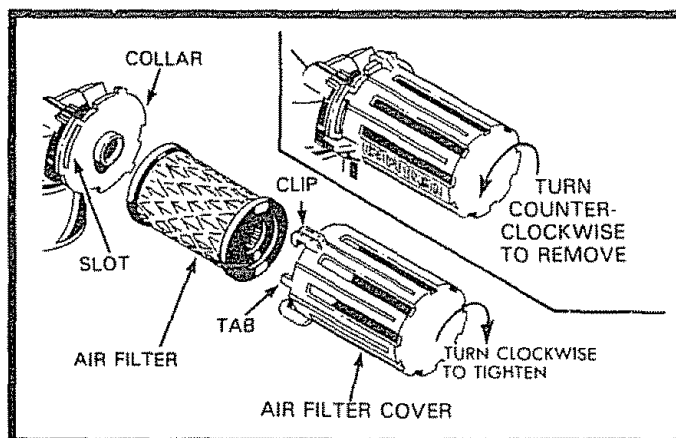

FIG. 11
- Remove the Air Filter cover by turning counter-clockwise to the stop and pull away from Collar (See Fig. 11).
- Remove Filter from inside of Cover (See Fig. 11).
- Push in on Cover and turn clockwise to tighten (See Fig. 11).